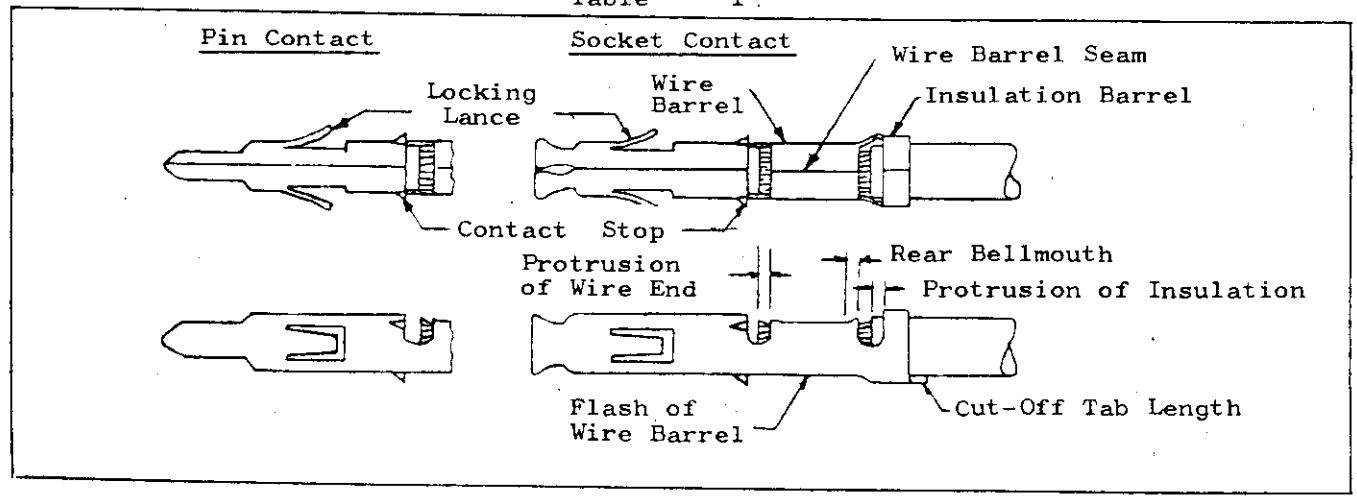

Figure 1
b. Die identification code (usually, figure 1, 2, or 3 are used) is necessarily put on each of product to identify the die with which the products were manufactured.